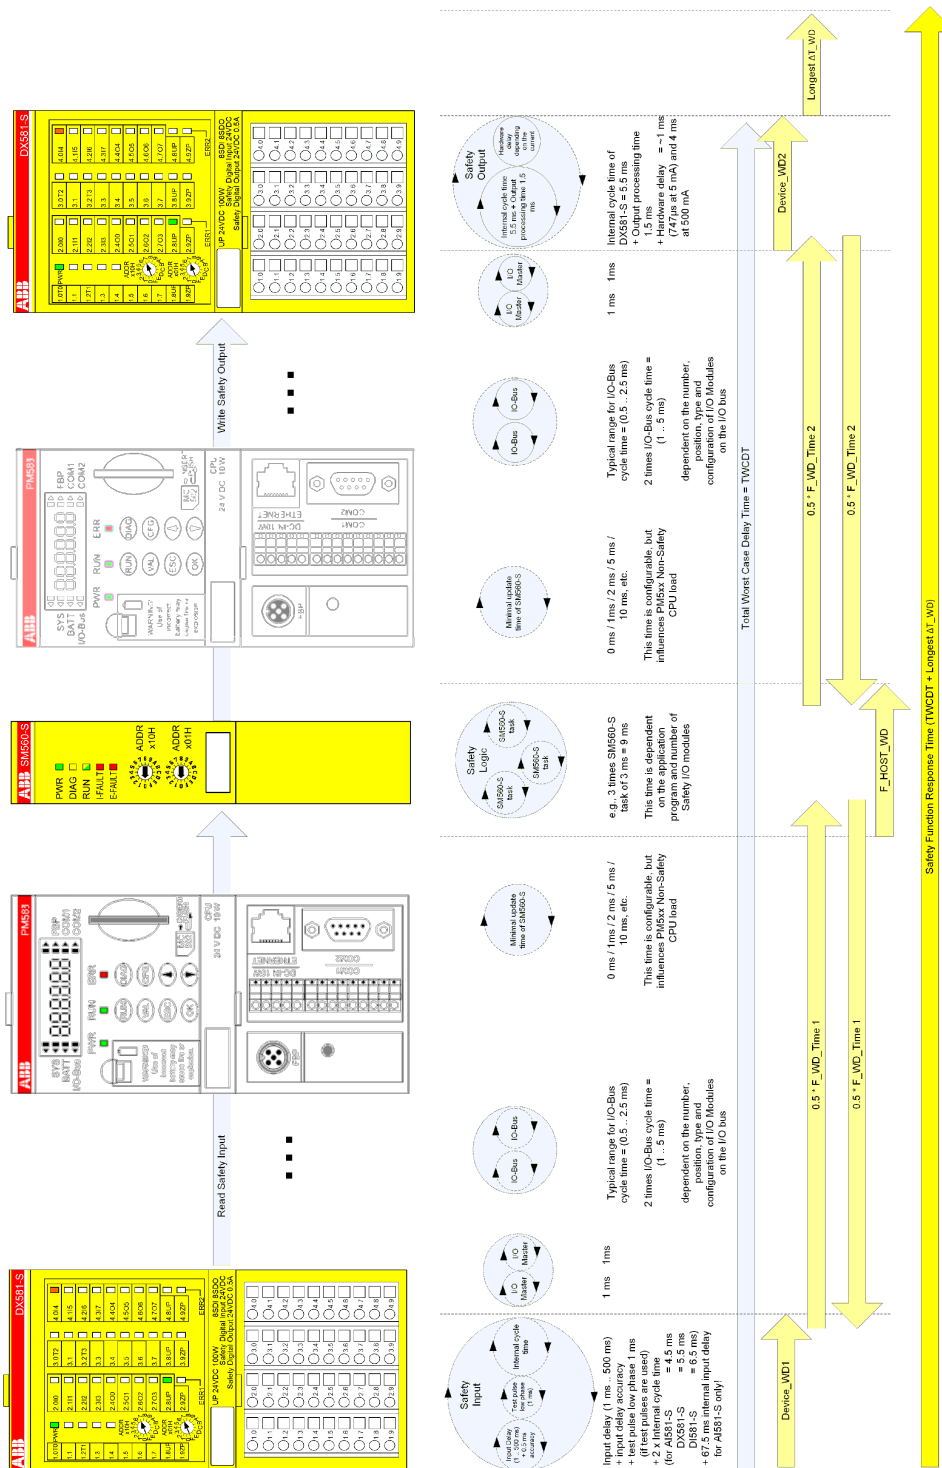

Fig. 113: SFRT in AC500-S system without PROFINET components
Fig. 113, Fig. 114 and Fig. 115 explain SFRT in more details. The model in Fig. 113 and Fig. 114 includes the stages of input signal reading, safe data transfer, safe logic processing, safe data transfer and safe signal output. The model in Fig. 115 presents safe CPU to CPU communication, which includes the stages of safe logic processing, safe data transfer and safe logic processing.
The following terms are defined in Fig. 113, Fig. 114 and Fig. 115:
- Device_WD1 and Device_WD2 as worst case delay times for Safety I/Os can be directly calculated as it is shown in Fig. 113 and Fig. 114.
- It is not always easy to calculate the worst case delay time of “Black channel” components (see AC500 Non-safety modules in Fig. 113 and Fig. 114). Thus, we propose to use half of F_WD_Time1 and F_WD_Time2 instead. F_WD_Time1 and F_WD_Time2 can be empirically obtained for the given AC500 system configuration by tracing the values of tResponseTimeMS for given Safety I/Os in the safety application. Use PROFIsafe instance for the given Safety I/O (↳ *Chapter 4.6.3 “SafetyBase_PROFIsafe_LV200_AC500_V22.lib” on page 235*). F_WD_Time1 and F_WD_Time2 shall be set about 30 % higher than the worst case value observed in the tResponseTimeMS for the given Safety I/O.
Based on Fig. 113, Fig. 114 and Fig. 115, the following exemplary SFRT values can be achieved for some typical AC500-S configurations using Equation 2, page 408: